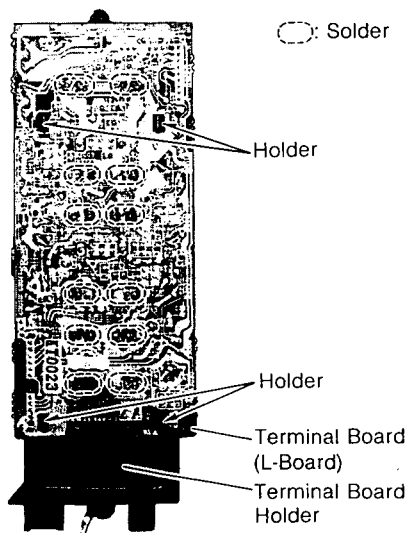

Figure 8
- Remove 4 screws ③ from the top cabinet, and then carefully pull the top cabinet toward you.
- Remove 1 screw ④ from the base frame.
- Unsolder the points indicated in fig. 8 and remove the terminal board holder from the terminal board (L-Board).
- Remove 2 screws ⑤ from the speaker bracket.